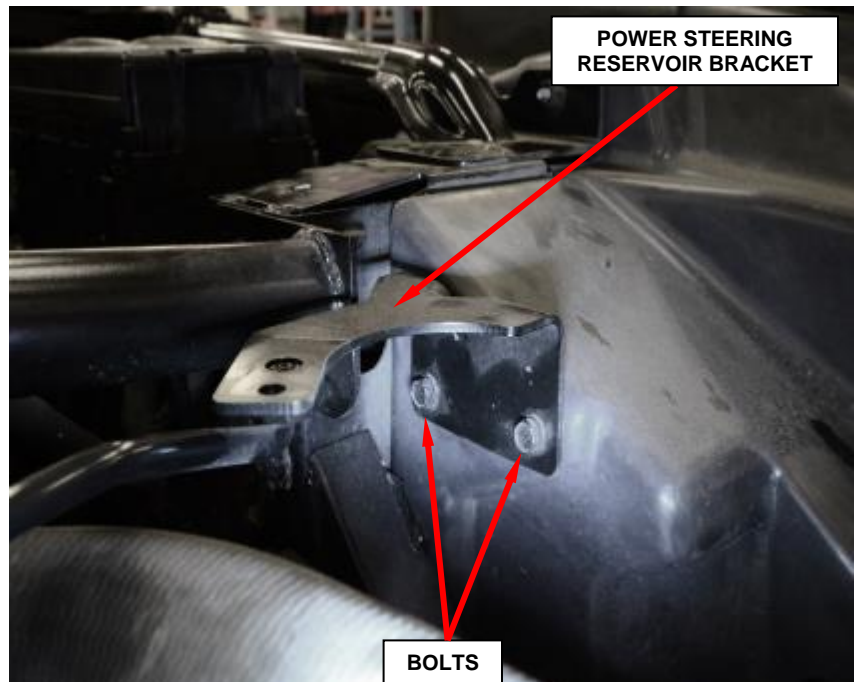

Figure 17 – Power Steering Reservoir Bracket
14. Remove and save the two bolts securing the power steering reservoir bracket and remove the bracket (Figure 17).